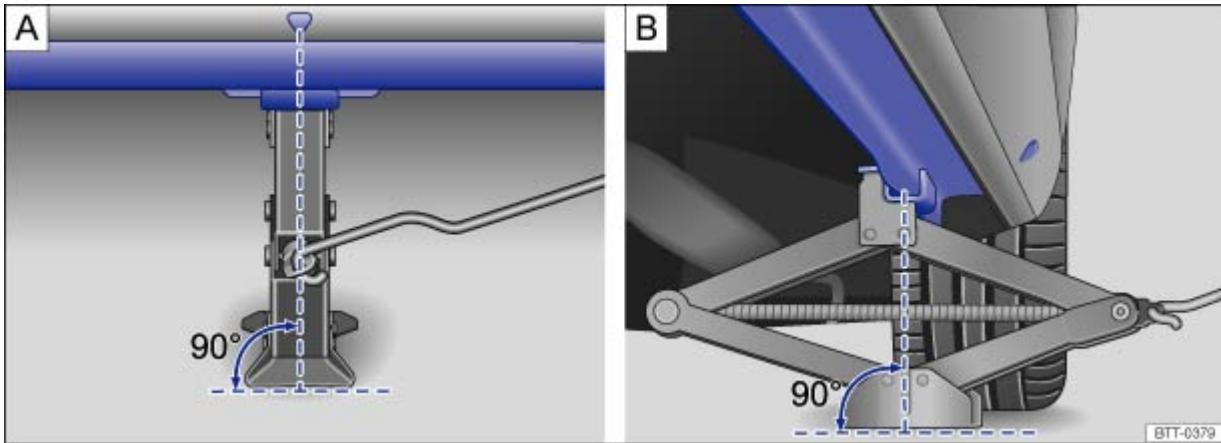

Fig. 197 Jack in position at the left rear lift point.
The jack must be positioned at one of the 4 lift points behind the markings on the vehicle body (2 on each side as shown in \Rightarrow Fig. 197(B)). You must use the lift point closest to the wheel being changed \Rightarrow .
- Position the jack only at the described vehicle lift points. Before you raise your vehicle, always make sure the jack claw properly grips the vertical rib under the sill so that the jack does not slip off when you are raising the vehicle ⇒ Fig. 197 .